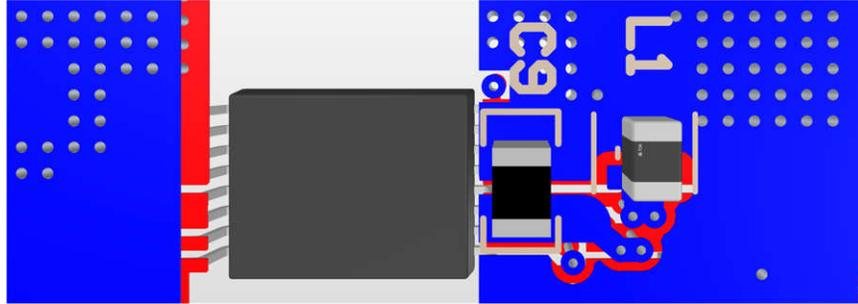

Figure 8-10. Bottom Side, Buck Boost, VEE LC Placement and Routing
- a. Place the 2.2 μ F high frequency bypass capacitor (C9) as close as possible to VEE and COM pins. The self-resonant frequency in 3MHz to 4MHz is most ideal to offer low impedance decoupling for the switching frequency noise of the buck-boost converter with the 3.3 μ H inductor (L1) selection. It is possible to put the capacitor on the different side of PCB and use vias to connect, in order to reduce the switching loop between the capacitor and the internal low-side MOSFET of the VEE buck-boost converter. In addition, putting the capacitor on different side will also simplify the decoupling capacitor placement of VDD pin and COM pin. An example of bottom side PCB placement of C9 and L1 is shown in Figure 8-10.